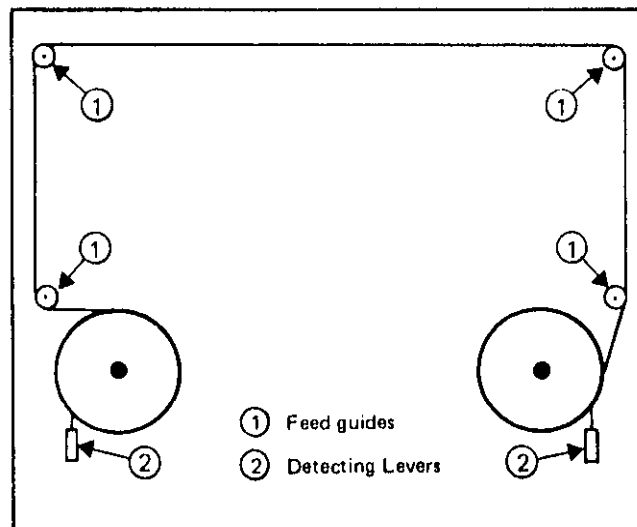

FIGURE 6. How to Replace Ribbon.
- f. Refer to Figure 6 and ensure that the new ribbon is properly threaded on the spools.
- g. On the printer mechanism, locate and push down the Detecting Lever on left hand spool shaft, slide the spool onto the shaft making note of the proper threading direction shown in Figure 6.
- h. Unwind 6 or 8 inches of ribbon from the remaining spool, if necessary, and position the ribbon over the feed guides as shown in Figure 6.